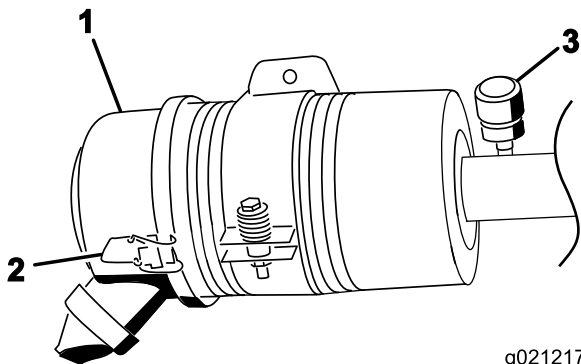

Figure 46
Service the air cleaner filter only when the service indicator (Figure 46) requires it. Changing the air filter before it is necessary only increases the chance of dirt entering the engine when the filter is removed.
1. Release the latches securing the air cleaner cover to the air cleaner body (Figure 46).